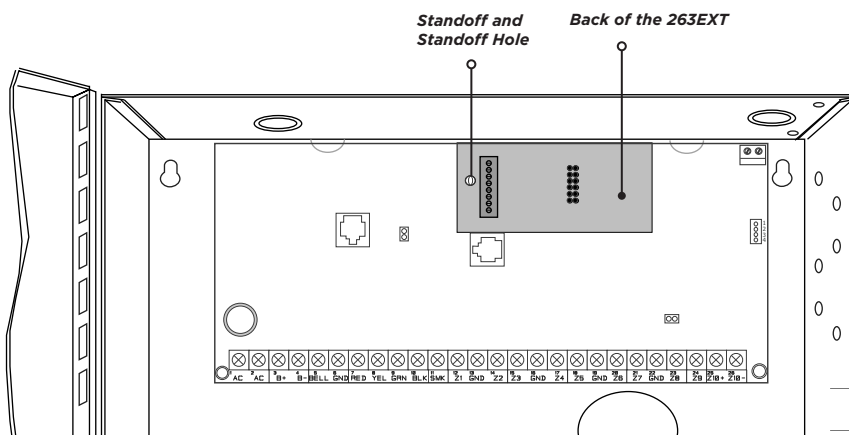

Figure 3: 263EXT Panel Module on an XT30/XT50 Panel
3. Align the 263EXT standoff hole with the standoff already placed in the panel. Secure the 263EXT on the 12-pin cell module header. See Figures 3 and 4.